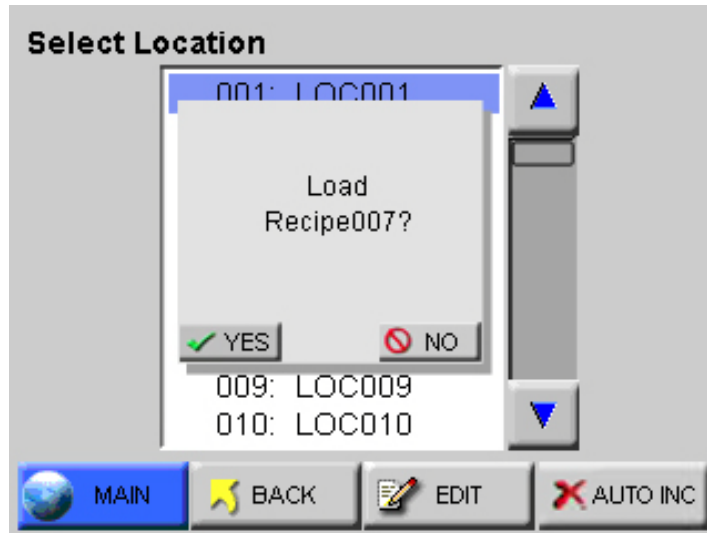

Figure 4-48 Location - Load Recipe
- When selecting a location with a recipe, the user is provided with the option of loading the recipe as shown in Figure 4-48. If the user chooses not to load the recipe, the location can still be used with the current settings.